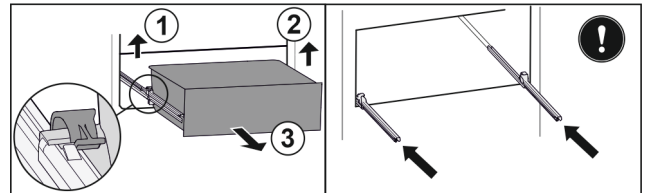

Fig. 80
- Lift left clamp and simultaneously pull drawer forwards on the left. Fig. 80 (1)
- Lift right clamp and simultaneously pull drawer forwards on the right. Fig. 80 (2)
- Remove drawer to the front. Fig. 80 (3)